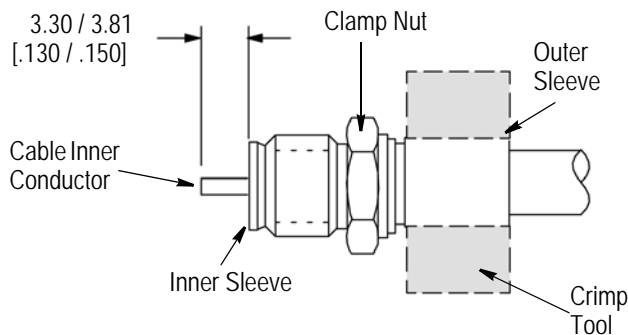

Figure 3
3.2. Crimping Cable to Inner Sleeve (Figure 3)